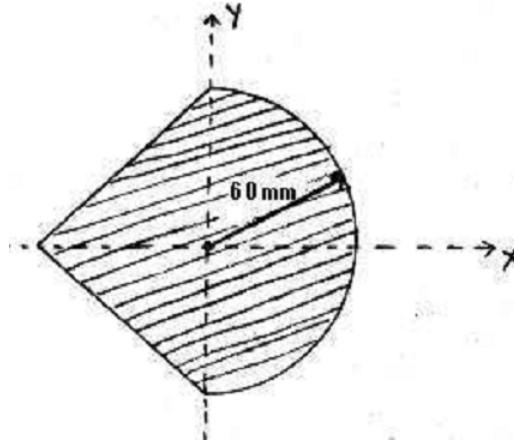

Fig. 2
- 4 a) Locate the centroid of a shaded area as shown in fig 2.